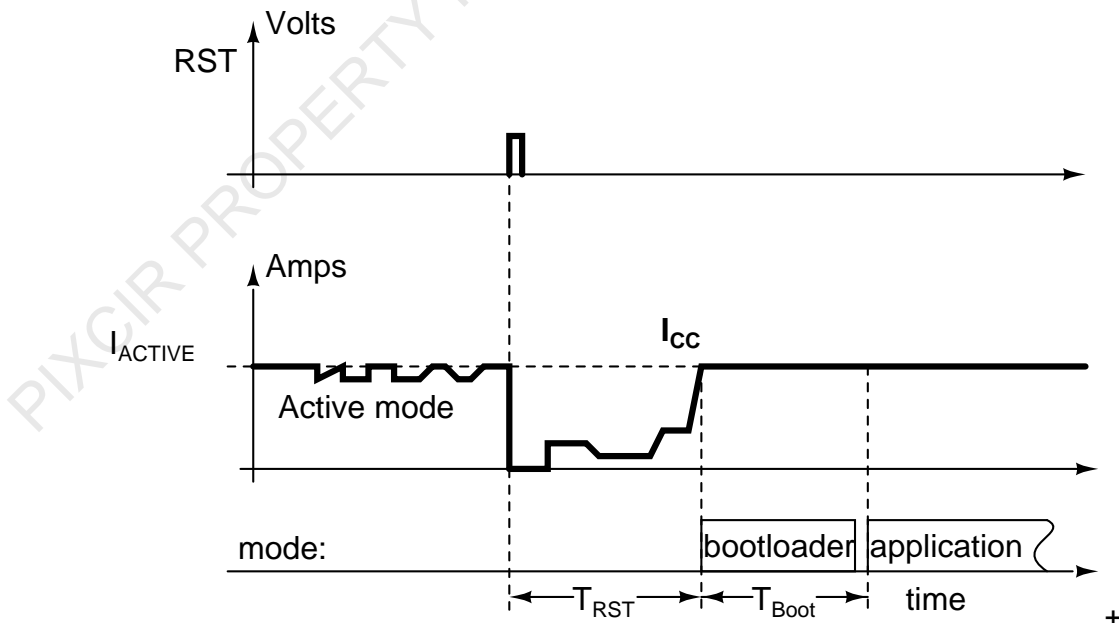

Figure 32: Power on sequence-2 (reset controlled by Host MCU when in active)
1. Reset while Tango C is in active mode, shown in figure 32.